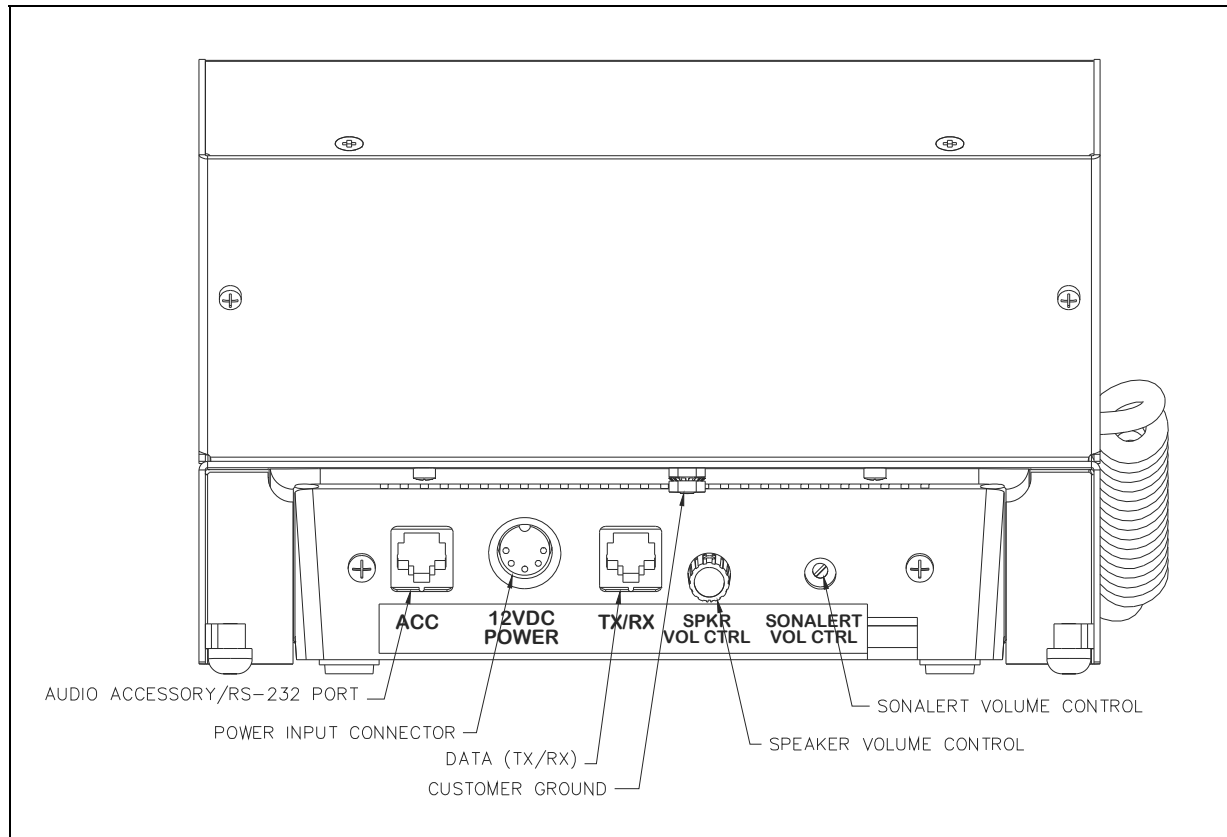
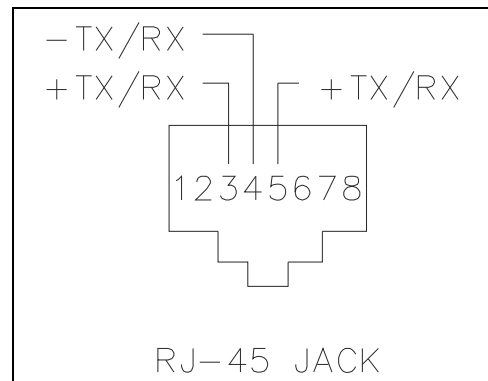

Figure 3. Access Panel—Rear View
Figure 4. Data Connection Detail
Connect the data line from the access panel to the ADVANCE System control cabinet to the eight-pin data port (RJ45 jack) on the rear of the unit (see Figure 3 and Figure 4).
1. Plug the power cord into the power connector on the rear of the unit (see Figure 3).